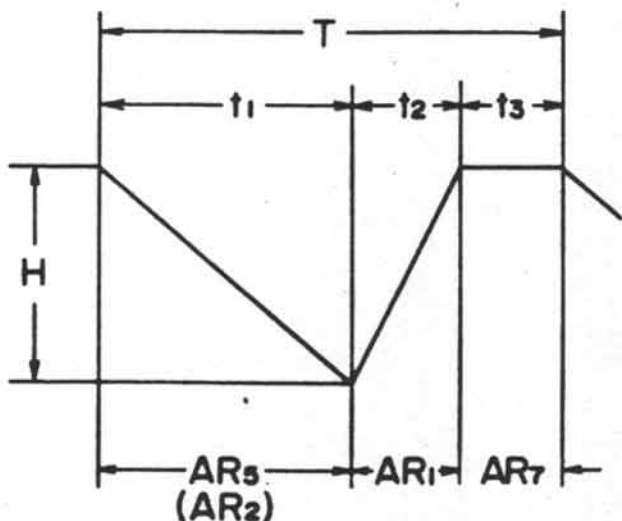
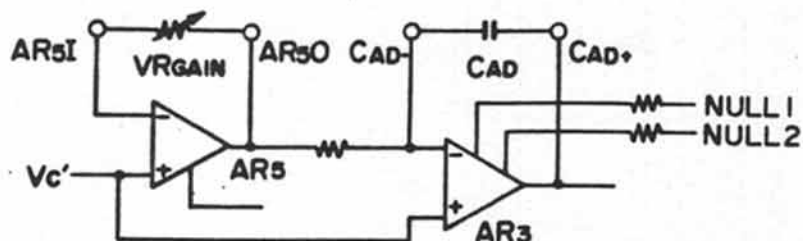

Fig. 3-10
Fig. 3-14
o Fig. 3-10. is a schematic representation of the dual ramp intergration analog digital convertor.
- o Fig. 3-14 shows the schematic for the circuit is used in the A/D conversion whose waveforms are shown in Fig. 3-10 and 3-13. The following is true: